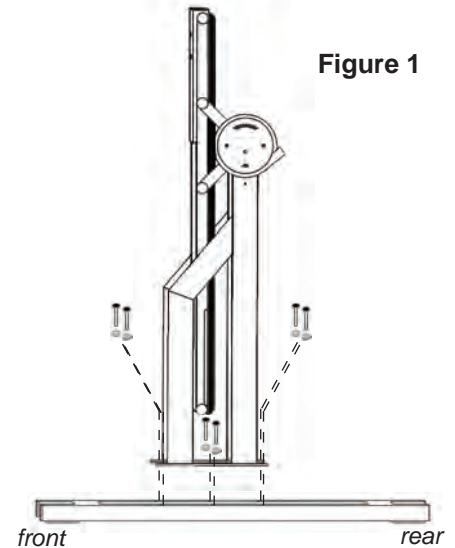

Figure 1
- Place the Frame Base flat on the floor, with the holes up. The holes in the Frame Base are off-center, positioned toward the front. (See Figure 1)
- Align the six (6) holes and insert a bolt with flat washer through each hole on both sides of the Base. If the holes do not align, turn platform around. Loosely tighten the bolts until certain that all of the holes are aligned properly, then securely tighten with wrenches.